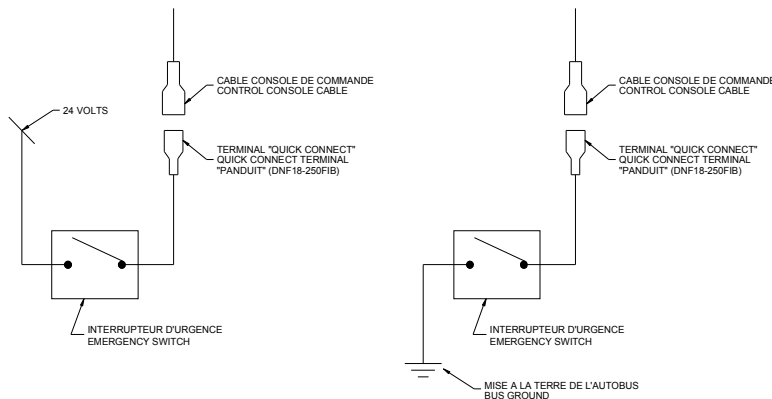

Figure 7: Distress Switch Connection
- Connect the distress signal switch wire to the bus distress switch. (See Figure 7).